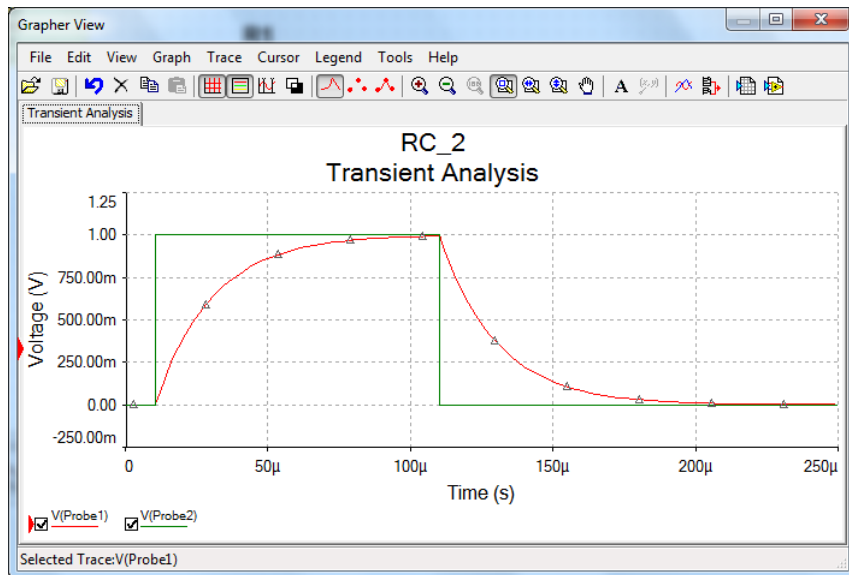

Figure 15 Pulse Response.
7. Click **Simulate.** The analysis runs and a "Grapher View" window opens automatically to show a transient response, see figure 15. Use the appropriate buttons to change the black background to white and to turn on grid lines.
8. **What does the resulting transient analysis, figure 15, tell you about the behaviour of the R-C circuit when driven by a pulse waveform? What is the significance of the 100 μ s pulse width chosen, relative to the C_1R_1 time constant?**